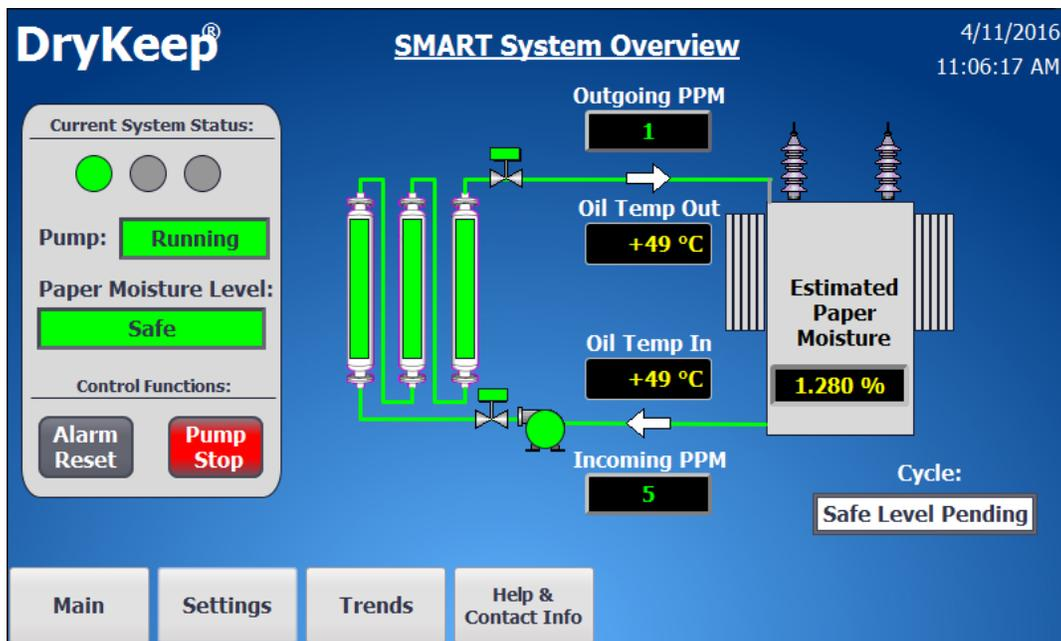

Figure 11: Main screen in Safe Level Pending cycle
- 14) The controller will constantly monitor the oil as it enters the system from the transformer and calculate the estimated percent moisture in the paper. When the controller sees that the safe level of moisture has been reached, the controller will place the system in the “Safe Level Pending” cycle as shown in Figure 11 below. The system will continue in the “Safe Level Pending” cycle for 7 days to ensure that the transformer has reached a safe dry-down level.